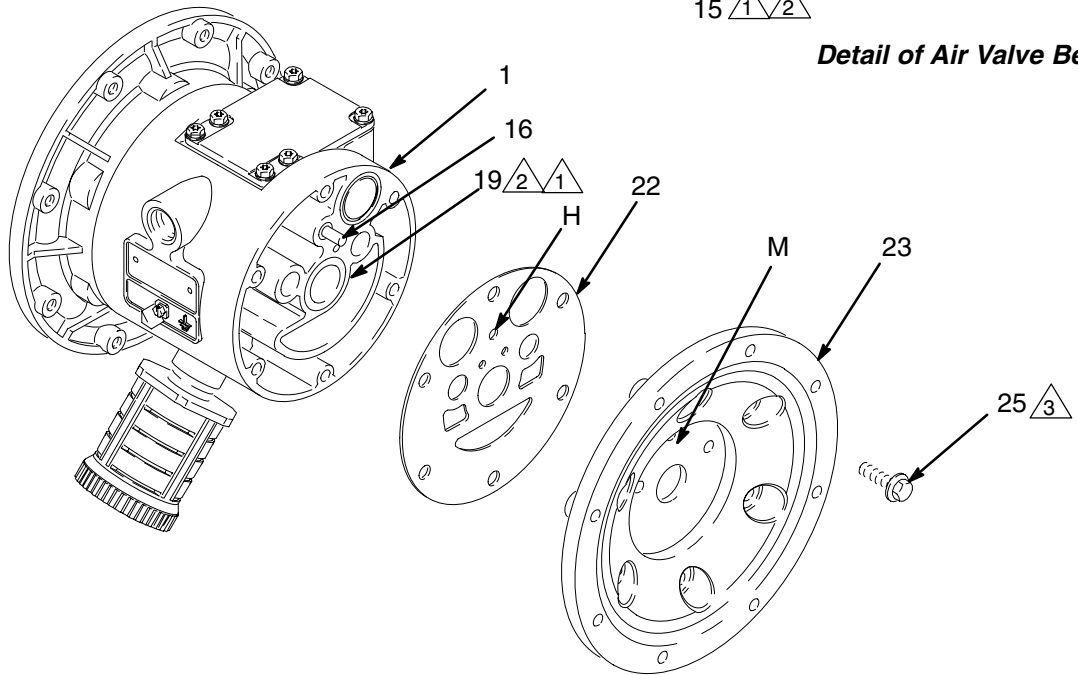

Fig. 15
- NOTE:** If you are removing only the diaphragm shaft bearing (19), skip step 4.
5. Using a 10 mm socket wrench, remove the screws (25) holding the air covers (23) to the center housing (1). See Fig. 15.
6. Remove the air cover gaskets (22). Always replace the gaskets with new ones.
7. Use a bearing puller to remove the diaphragm shaft bearings (19), air valve bearings (12) or pilot pin bearings (15). Do not remove undamaged bearings.
1. If removed, install the shaft u-cup packings (402*) so the lips face **out** of the housing (1).
2. The bearings (12, 15, and 19) are tapered and can only be installed one way. Insert the bearings into the center housing (1), **tapered end first**. Using a press or a block and rubber mallet, press-fit the bearing so it is flush with the surface of the center housing.
4. Align the new air cover gasket (22) so the pilot pin (16) protruding from the center housing (1) fits through the proper hole (H) in the gasket.
5. Align the air cover (23) so the pilot pin (16) fits in the middle hole (M) of the three small holes near the center of the cover. Install the screws (25), handtight. Apply medium-strength (blue) Loctite® or equivalent to the threads of the screws (25). See Fig. 15. Using a 10 mm socket wrench, torque the screws oppositely and evenly to 130–150 in-lb (15–17 N.m).